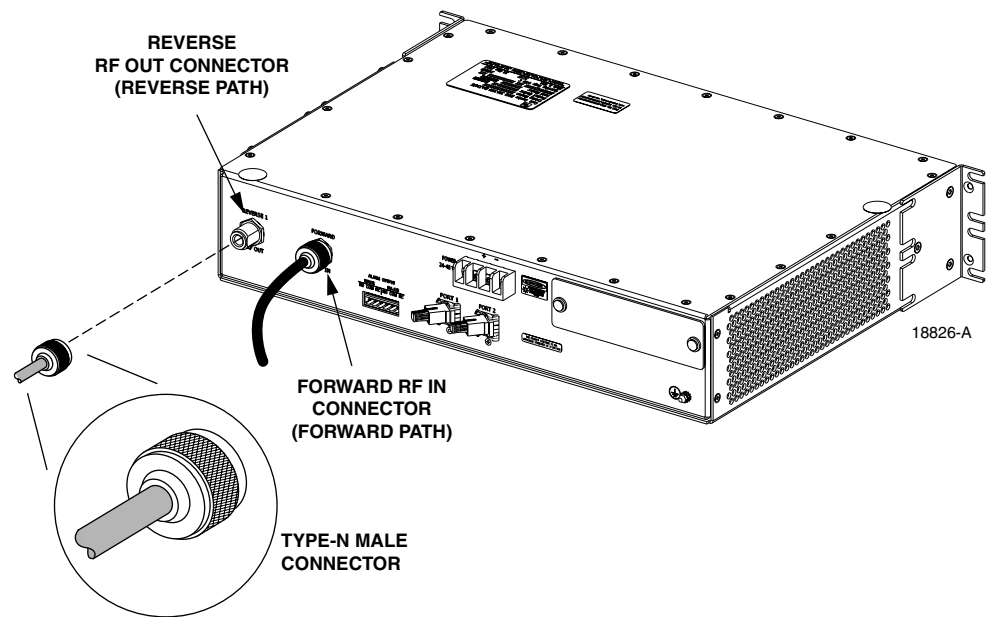

Figure 3-5. Forward and Reverse Path Coaxial Cable Connections
4. Connect the forward path cable to the **FORWARD RF IN** connector on the HU front panel as shown in Figure 3-5.
5. Connect the reverse path cable to the **REVERSE RF OUT** connector on the HU front panel (see Figure 3-5).